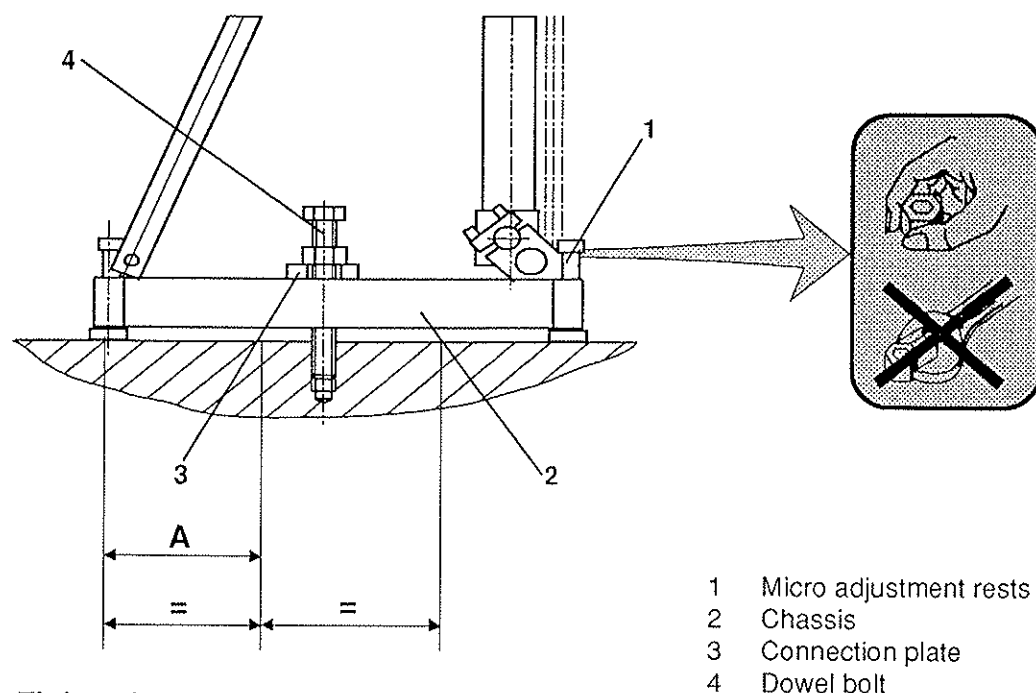

Fig. 4-1 Fixing the Drill Rig
Fix the drill rig according to the instructions of Fig. 4-1:
- With dimension A (fig. 4-1), smaller than 10 cm, and with large bore diameter, or during works at walls, a second plug has to be fixed to the very front of the fixing.